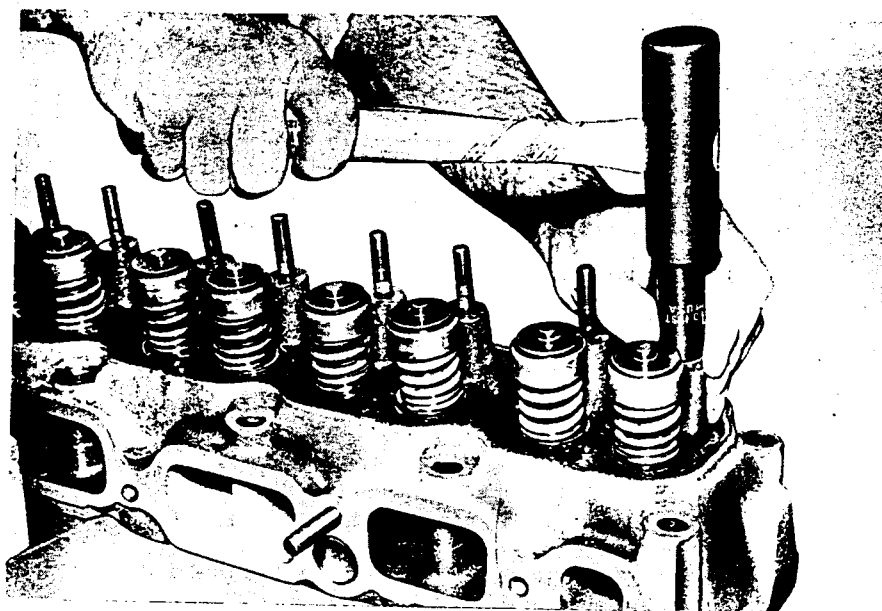

Figure 8-1-13
c. Coat press-fit area of stud with a hypoid axle lubricant. Install new stud using tool J-6880. Tool should bottom on head (see Figure 8-1-13).